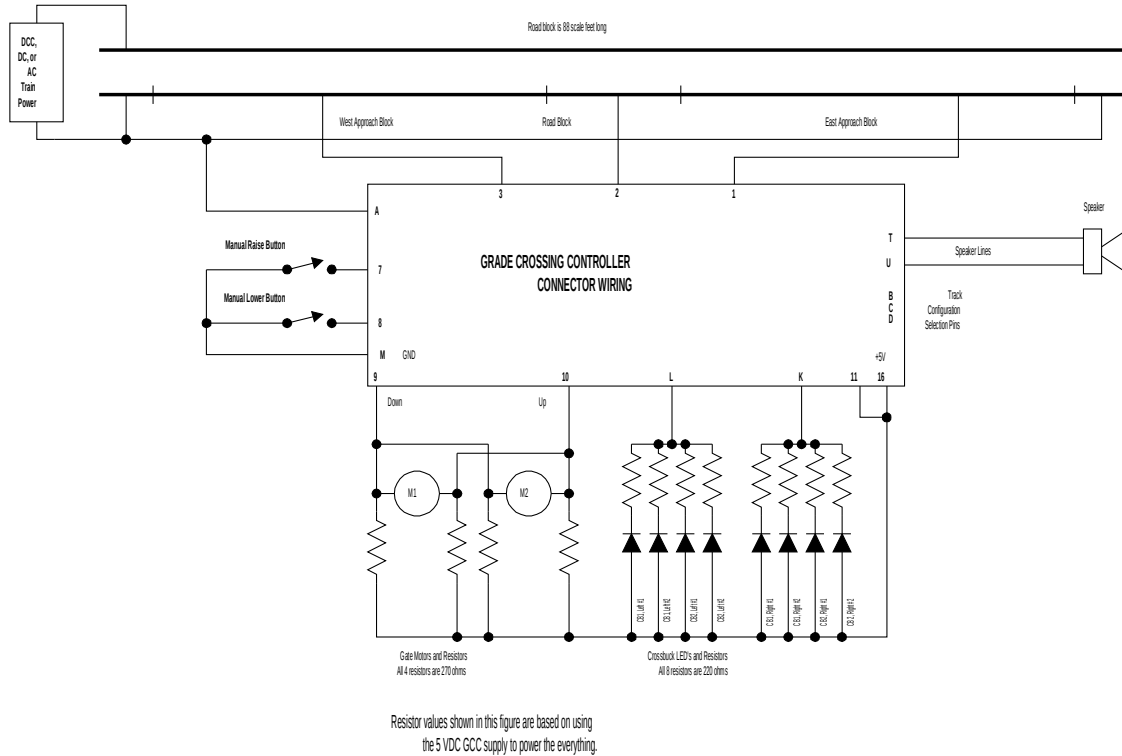

Figure 4-14 Basic Wiring of the GCC
In most cases, connecting the GCC to your layout is very simple. The basic wiring diagram is shown in Figure 4-14 Basic Wiring of the GCC. As you can see, most of the wiring is connected to the crossbucks and gate motors.
Figure 4-14 specifically shows the wiring when used with the TOMAR model H-863 Crossing Gates (HO). Each gate has its own 3-volt stall motor. Each crossbuck has 4 LED's, two facing toward the track and two away. The box labeled "DCC, DC or AC Train Power" represents the system you use to operate your trains. Naturally, the figure does not show cab select switches or any of the other electrical hardware used in a DC or AC powered layout.
The manual raise and lower circuit is simply two push-button switches, or the equivalent. Check the wiring shown in Figure 4-14.